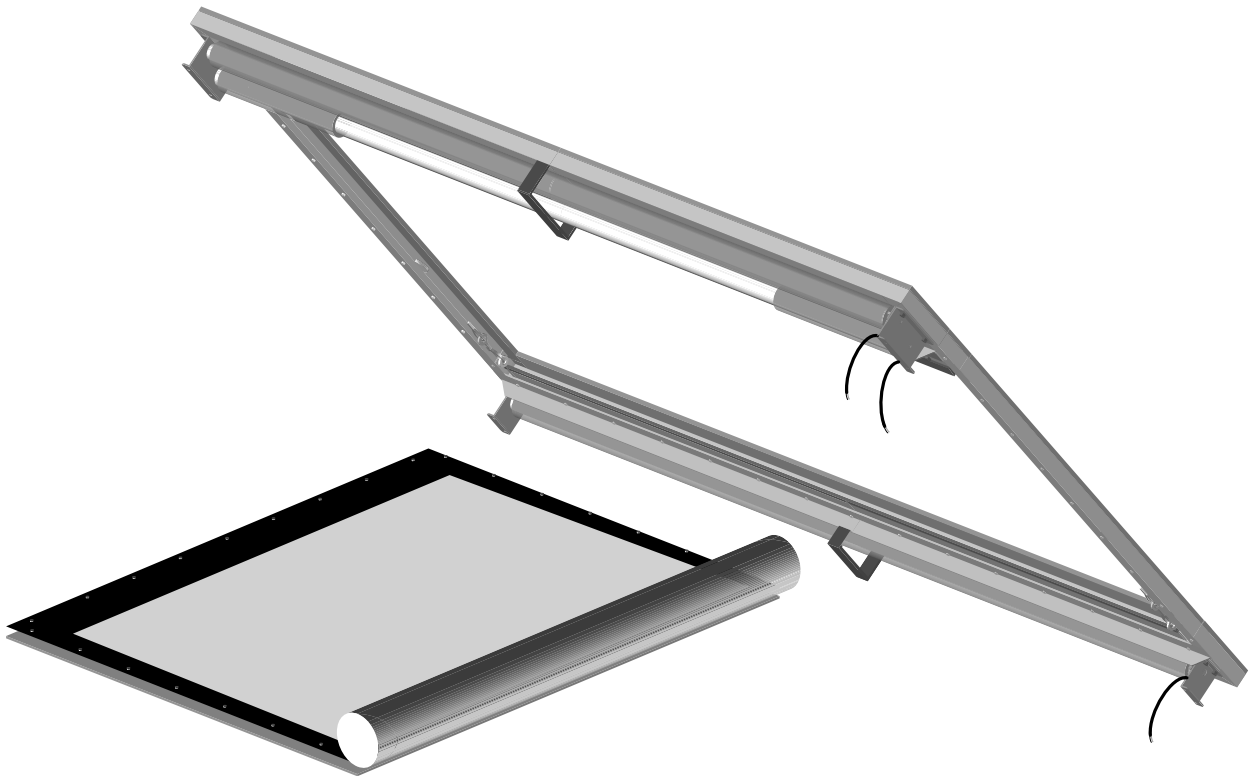

Figure 5: Unrolling the screen
3. Allow the paper to unroll between screen back and the floor. (This will keep the screen clean.) See Figure 5.